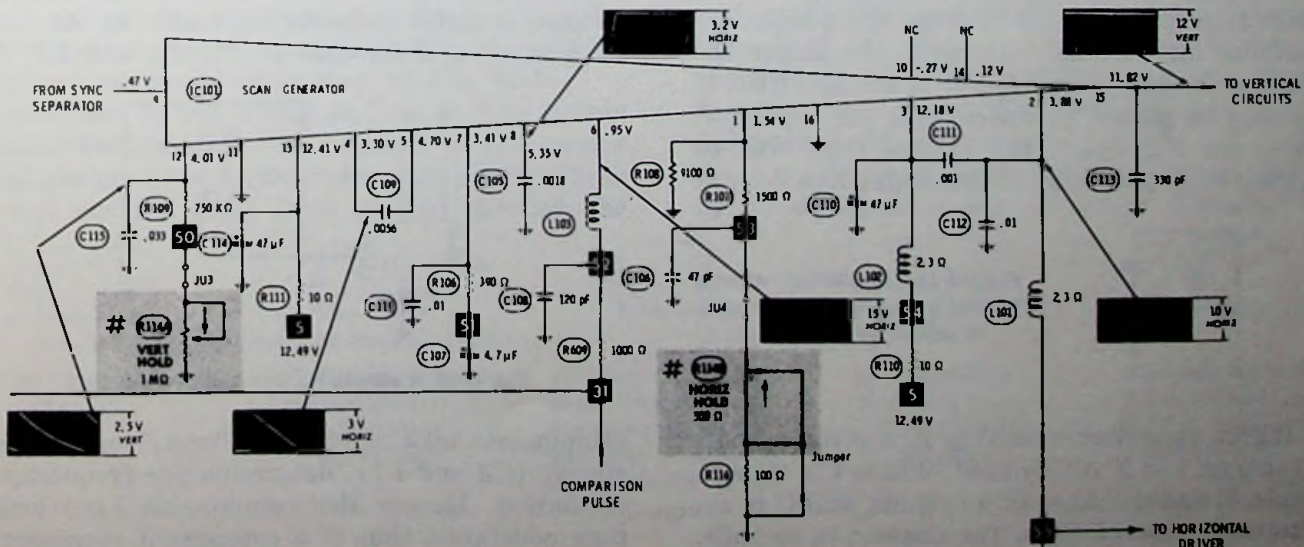

Fig. 4-11. IC apc circuit.
If the apc circuit is included inside an IC horizontal system as shown in Fig. 4-11 it may or may not be identified on the IC. Of course as such it will not be possible to troubleshoot anyway. For any IC circuit the troubleshooting method is: (1) check the input and output signals; (2) if input is available without an output, check the supply voltage; (3) if supply voltage is good either the IC or an attached external component is defective—check the “external” components; and (4) replace the external component if found
Some few monochrome receivers are using an integrated circuit sweep system which incorporates much of the vertical and horizontal circuitry. Such a system is illustrated in Fig. 4-11. Note that there are no identifications of what type circuitry is inside the IC. Here the technician must be totally dependent on the knowledge of inputs and outputs in order to troubleshoot the horizontal circuitry.